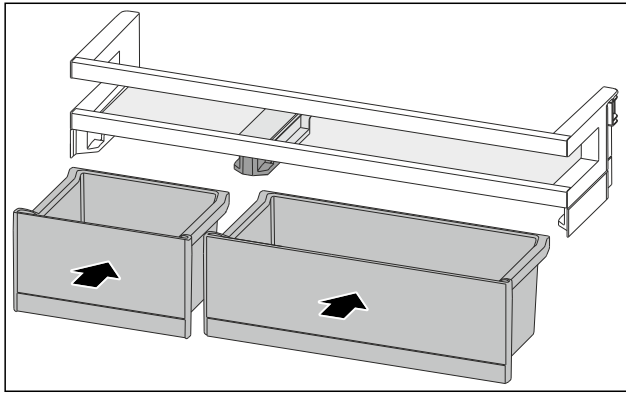

Fig. 131
- Insert the VarioBoxes opposite order. (see Fig. 131)